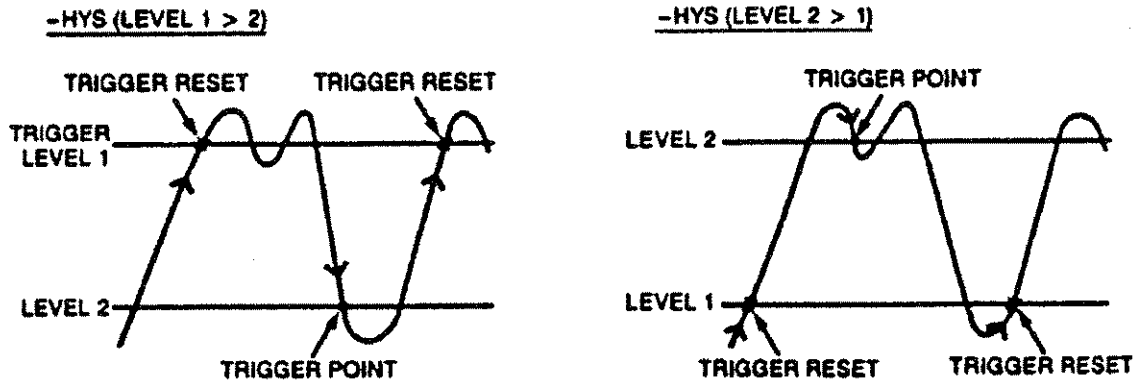

Fig. 1-7 Negative hysteresis examples.
- **Hysteresis:** In this mode, the trigger circuit generates the trigger pulse when the negative-going trigger signal crosses the selected trigger level determined by Trigger Level 2. After the RTD 710A recognizes the first point determined by Level 1, a positive-slope trigger signal must pass through the selected Hysteresis level determined by Trigger Level 1. Figure 1-7 shows two negative-hysteresis trigger examples, one with Level 1 greater than Level 2, and one with Level 2 greater than level 1.